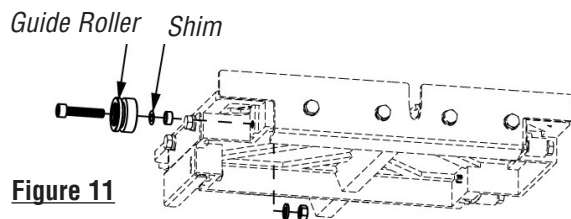

Figure 11
1. If the table shifts to the right as it travels away from the user, a shim needs to be added to the guide roller furthest from the ruler guide. On the other hand, if the table shifts to the left, a shim needs to be added to the guide roller closest to the ruler guide. Remove the appropriate guide roller to insert a shim between the roller and table, then reattach. (See figure 11). On the severity of the shift, more than one shim may be required.